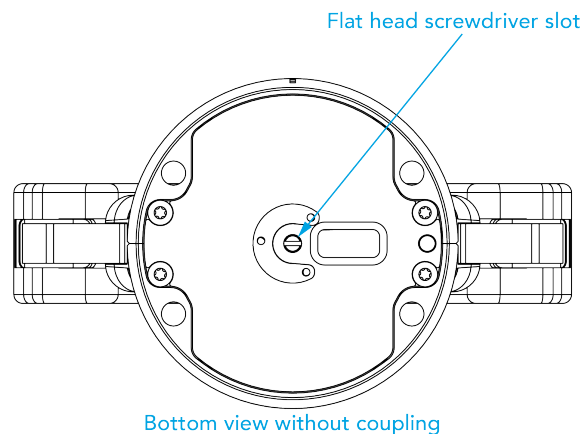

Fig. 6-1: Flat head screwdriver slot for manual opening and closing of the Gripper.
- ii. Test the general movement of the fingers by turning the flat head screw under the gripper (see Fig. 6-1).